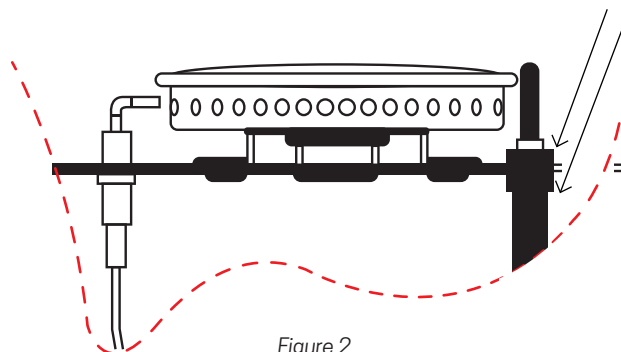

Figure 2
- ✓ Loosen the two nuts on either side of the base of the FFD, then adjust the height to correct the position of the thermocouple. Refer to Fig. 2 for the location of the two nuts.